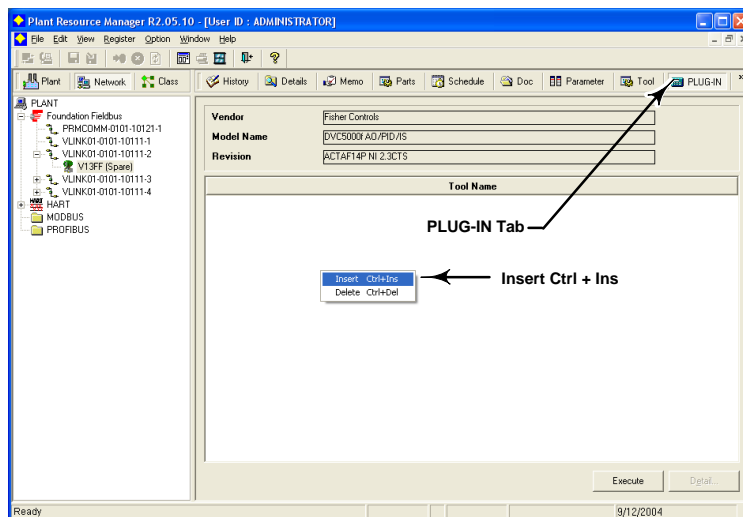

Figure 5-1. PLUG-IN Tab
- Step 3:** Click on the PLUG-IN tab. Move the mouse cursor to the white list box, as shown in figure 5-1 and right-click. Select the Insert Control + Ins option.